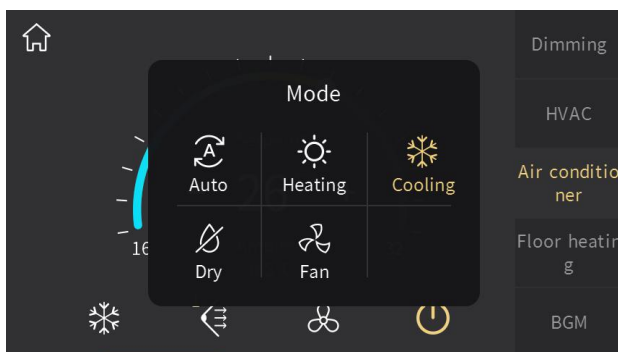
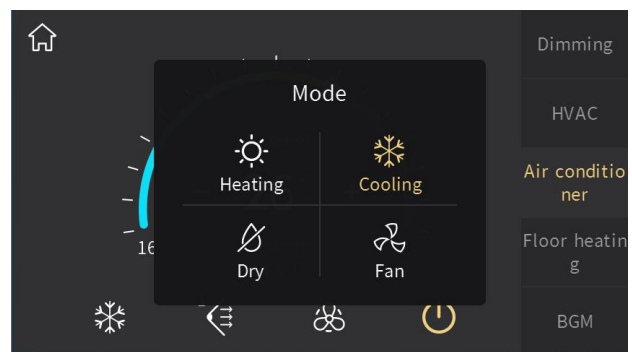

Fig.2.4.3
Fig.2.4.4
- ⑦ **Enter the mode setting by touching this icon, and will pop up a sub-window shown as Fig. 2.4.3 and Fig.2.4.4;**
Auto mode set to be disable or enable by parameter configuration. When disable, there will be no Auto item shown on the interface, as shown in Fig.2.4.4; when enable, there will be an Auto item shown on the interface, as shown in Fig.2.4.3.